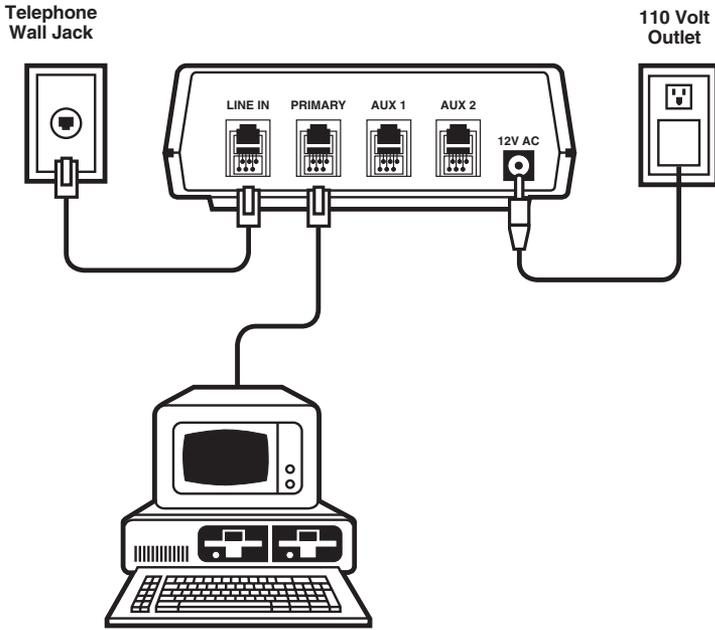

Figure 3-2. The Lineshare Master Installed on a Dedicated Phone Line.
**Figure 3-2** shows the Lineshare Master on a dedicated phone line.